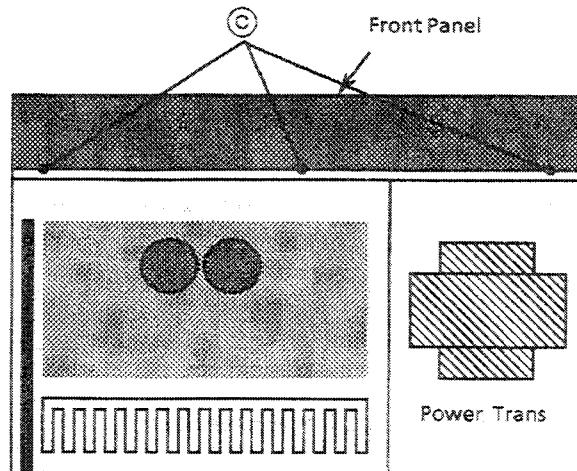

Fig 1. Top View
2. Remove the 3 screws \odot and 3 plastic rivets \odot . (Fig 1,2)
(4) Removing the Power Transistor